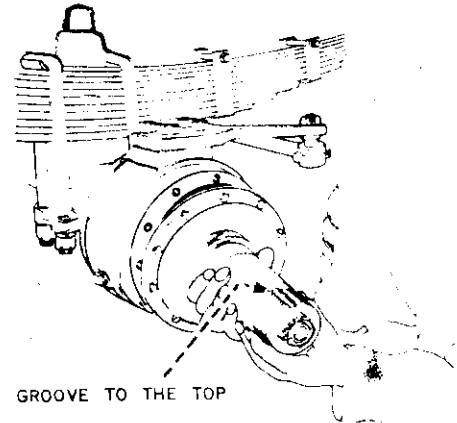

FIG 13 - ASSEMBLY OF STUB AXLE ON TRACTA HOUSING
m. Place the driving axle outer in the stub axle and bush, and mate the stub axle flange to the outer face of the tracta housing outer, with a gasket between the two. At the same time, the driving axle outer must mate with the centre floating components of the tracta joint. Locate the stub axle with the groove through the threads uppermost (fig 13). Tighten the stub axle up together with the brake torque plate and dust cover to 30 lb ft torque.